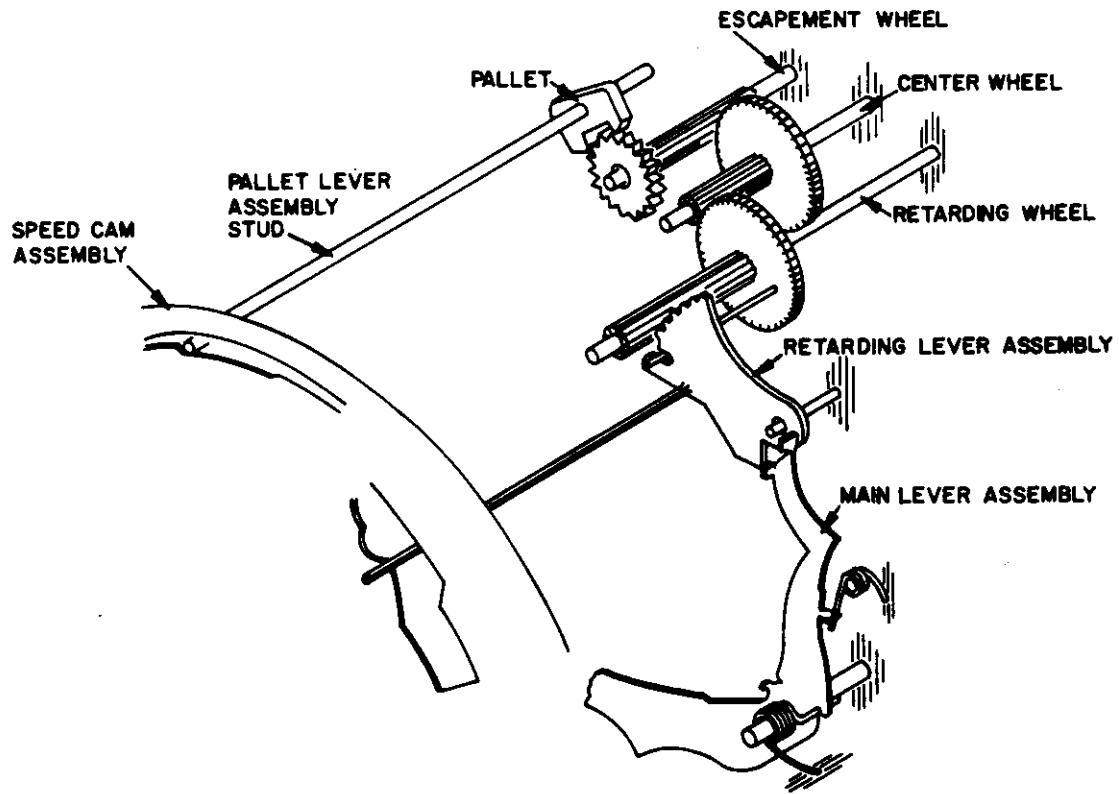

Figure 1. SLOW SHUTTER SPEEDS
The three between-the-lens shutters No. 1, No. 2 and No. 3 Shutters are similar in design; consequently the theory of their operation is combined in paragraphs 1 through 10. Explanation of differences will be noted by an underlined description of the shutter concerned. This section is divided into the following nine paragraphs: shutter speed settings, shutter cocking, shutter tripping, time setting, bulb setting, press focus operation, diaphragm setting, cable release mechanism, and synchronizer operation. Each paragraph defines the interrelationship of shutter parts which are concerned with the proper functioning of the mechanisms listed in the heading of that paragraph. Figures 1 through 7 are used to aid in identifying parts described in text.
2. Shutter Speed Settings (fig. 1 and 2)